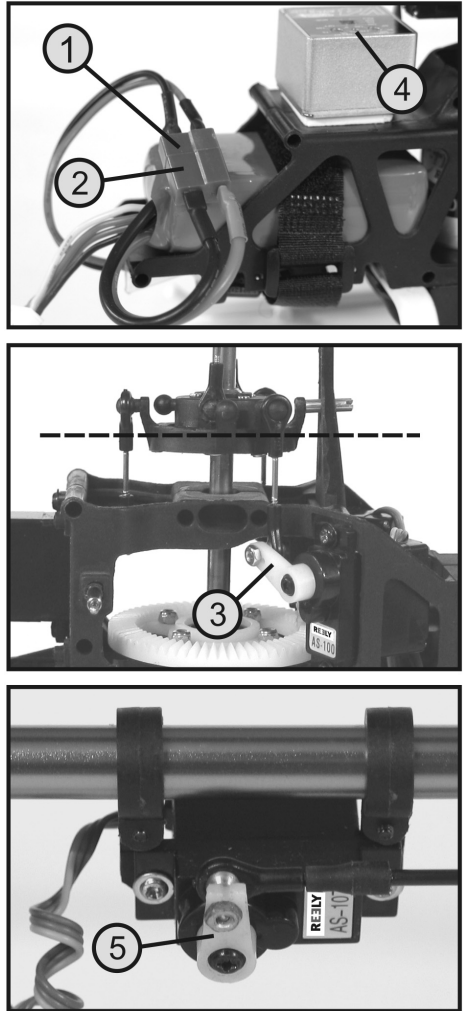
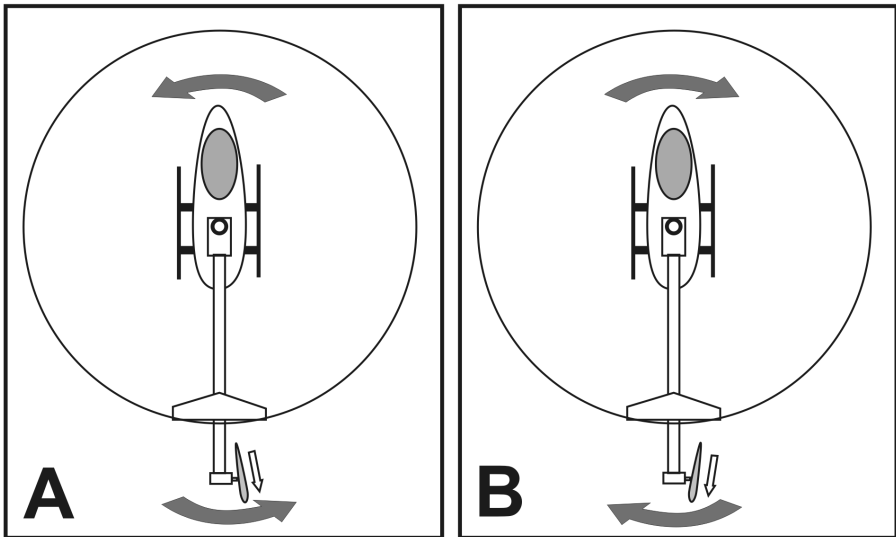

Figure 13
Figure 16
When the rechargeable battery is connected to the model helicopter, the swash plate must be horizontally aligned (see middle image in figure 13) and must not be tilted.
If you deflect the control stick for the pitch and tail functions at the transmitter (also see figure 1, item 14) all the way to the left, the servo lever of the tail servo (see figure 13, item 5) must move back. The rotor blades at the rail rotor are thus adjusted so that the tail rotor (viewed from above) will deflect to the right and that the fuselage tip of the helicopter is turned to the left (see figure 16 A).
When steering to the right on the transmitter, the servo lever moves forward and the rotor blades at the tail rotor are adjusted so that the tail rotor (viewed from above) is deflected to the left. The fuselage tip of the helicopter now turns to the right (see figure 16 B).